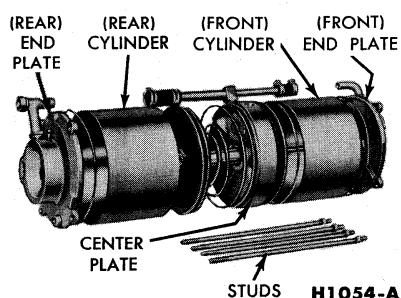

FIG. 40—Power Cylinder Separation
11. Remove the nuts and studs from the power cylinder, and disassemble the end plates, cylinder shells, and center plate assembly (Fig. 40).
38. Position a new gasket on the other edge of the center plate (Fig. 40). Coat the interior of the rear cylinder with vacuum cylinder oil, then tip the front cylinder and end plate assembly at a 45-degree angle to prevent damage to the rear piston leather packing. Carefully push the rear cylinder over the rear piston and onto the center plate.